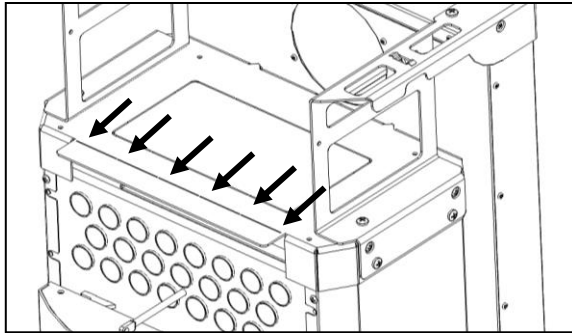

Figure 110 – Removing the front visor
f) Remove the rear lid from the unit's chassis marked in Figure 110, by cutting the identified areas using a pair of pliers.